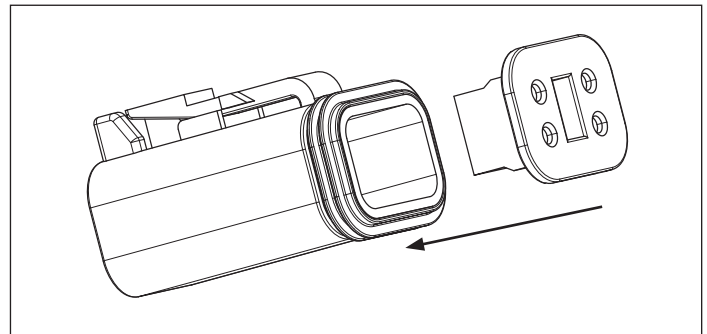

Figure 6 - Inserting the Locking Cap to the Housing
- Ensure the terminals are fully seated in the housing. Insert the locking cap to the front of the housing. See Figure 6.